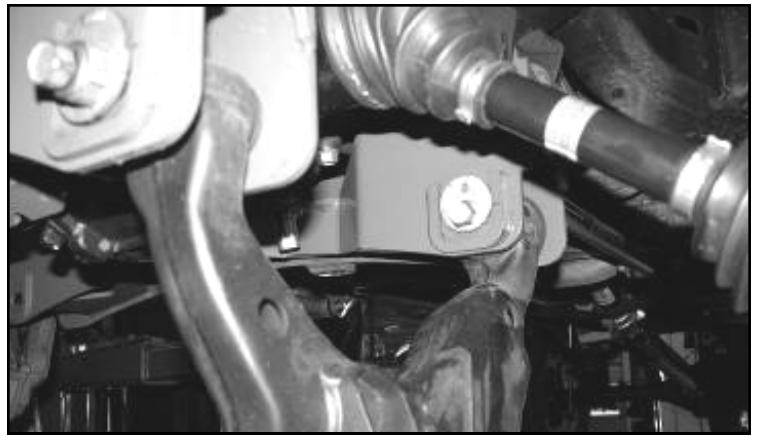

FIGURE 22 - STEP 27
- 27. Install the factory lower control arms, using stock alignment bolts and hardware, leave loose. **SEE FIGURE 22**